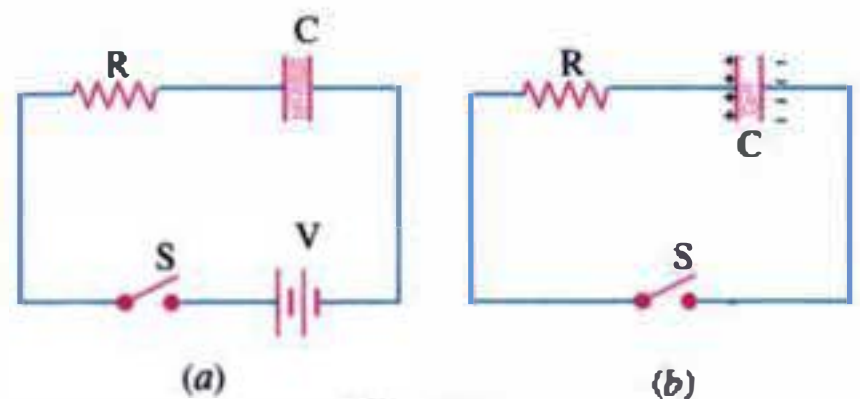

Fig. 5.38
As shown in Fig. 5.38 (a), when S is closed, the capacitor starts getting charged from the battery. The capacitor, however, requires a certain amount of time to get fully charged to the battery voltage V . The time taken depends on its capacitance (C) and the resistance (R) in the charging circuit.
In Fig. 5.38 (b), the fully-charged capacitor can be discharged through R by closing S . In one time-constant, the charge decreases to 36.8% of its fully-charged value. Again, in 5 time-constants, the capacitor is considered fully discharged.